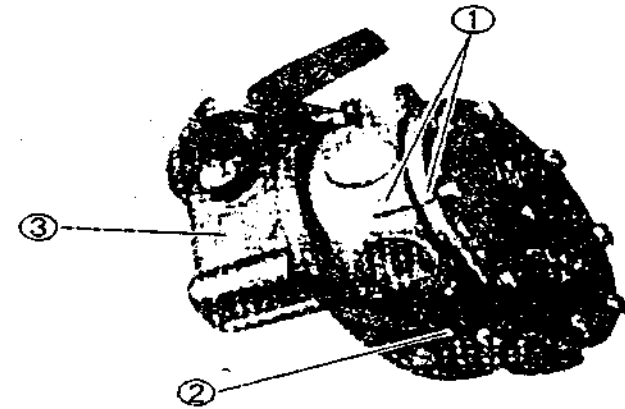

Fig. 2.1-5
(2) Disassembly
As indicated in Fig. 2.1-5, the upper and lower joints shall be marked ①, to recognize the angle position of upper body ② and lower body ③. Only if angle relation is ensured, the oil circuit can be connected.